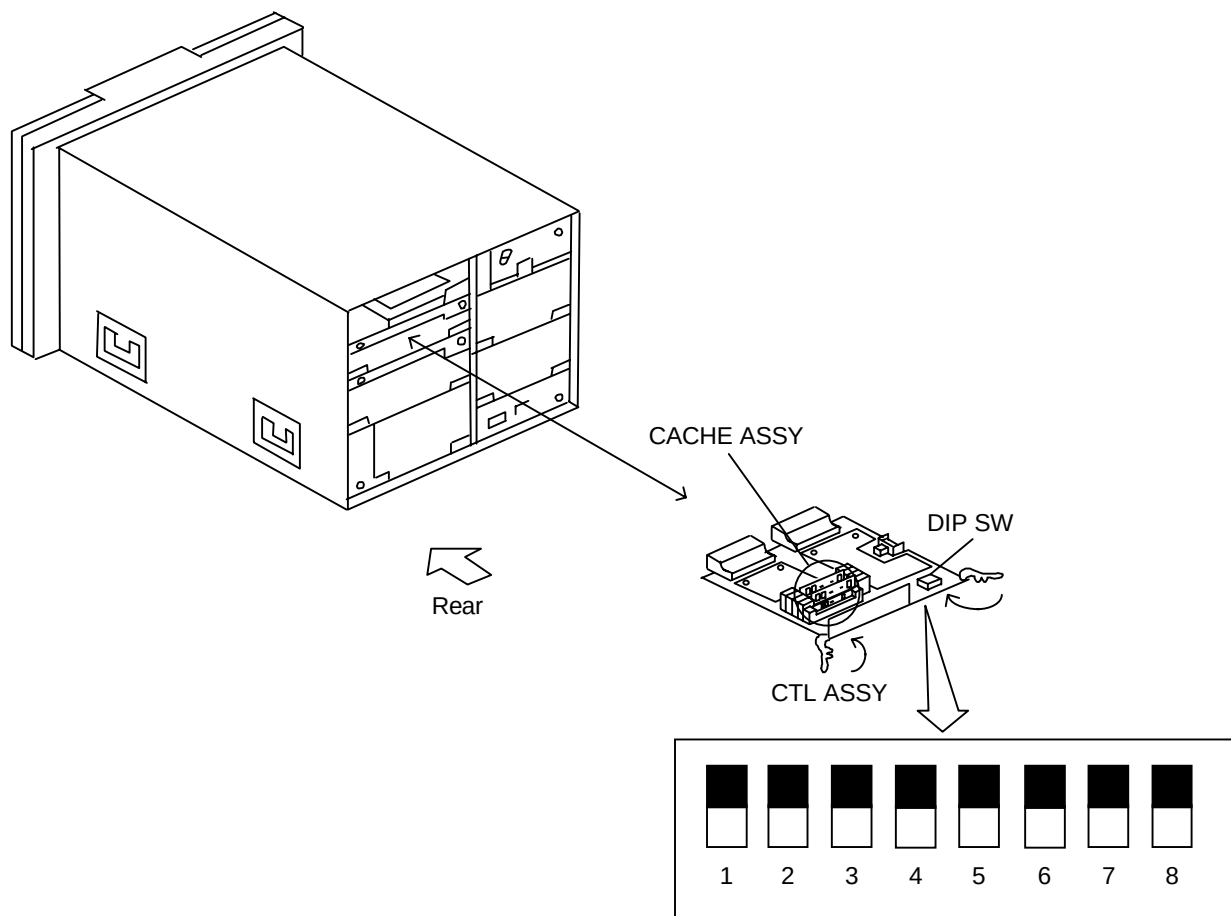

Figure 2.6.3 Installing the CTL ASSY
- (3) Remove rear cover 1 and 2.
- (4) Install a CACHE ASSY in the additional CTL ASSY. (Mount a CACHE ASSY of the same capacity in the same corresponding slot of the optional CTL ASSY as those of the already installed CTL ASSY respectively as shown on RH-OPTION0180.)
- (5) Insert the CTL ASSY in a predetermined position with the right and left levers opened. Push the right and left levers in the arrow-marked erection (→) at the same time. (See Figure 2.6.3.)
- (6) Install the additional I/F ADAPTER ASSY. (See Figure 2.6.3.) Set JP1 and JP2 on the I/F ADAPTER to the same condition as the pre-installed I/F ADAPTER ASSY.